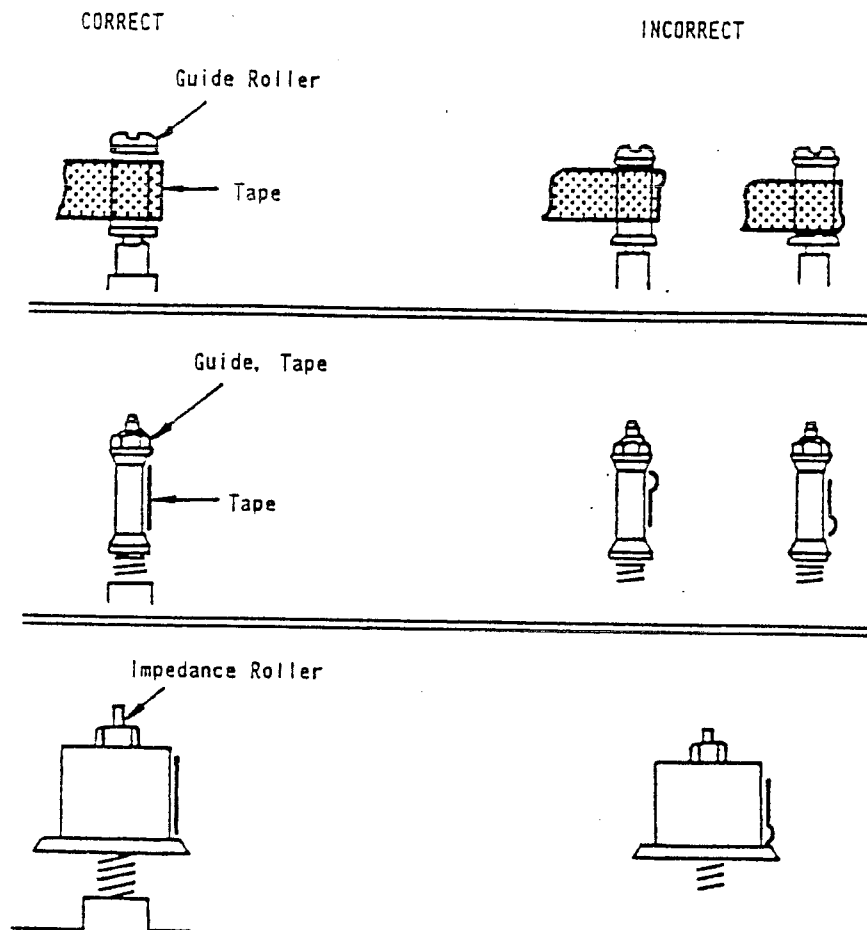
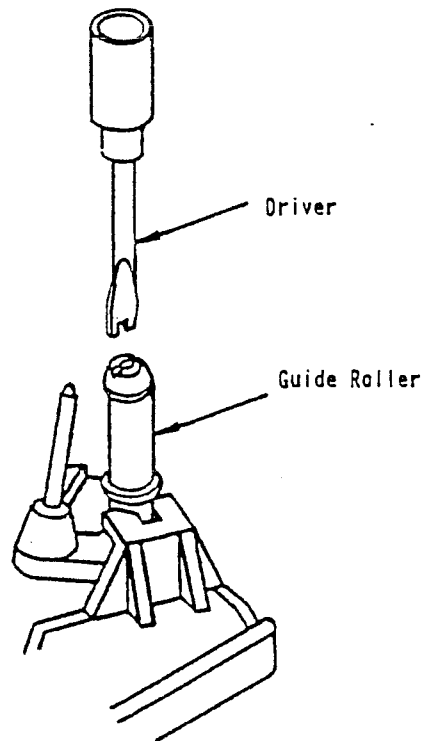

Fig. 2-3
Fig. 2-5
5. During loading, play and unloading, observe the tape at the supply and take-up guide rollers, tape guide and impedance roller. Confirm that there is no curling or creasing etc., as shown in Fig. 2-3.
7. Next, adjust the guide roller height. Insert the adjustment driver into the guide roller top. (Refer to Fig. 2-5.) Adjust the height by turning the driver slightly so that the tape runs on the guide roller as shown in Fig. 2-3, and the lower edge of the tape runs along the lead surface of the cylinder.